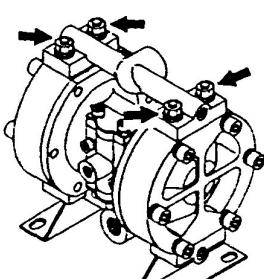

Fig.4.5
- Remove the 4 retainer nuts from the “out” manifold, and remove the “out” manifold. [Fig. 4.5]